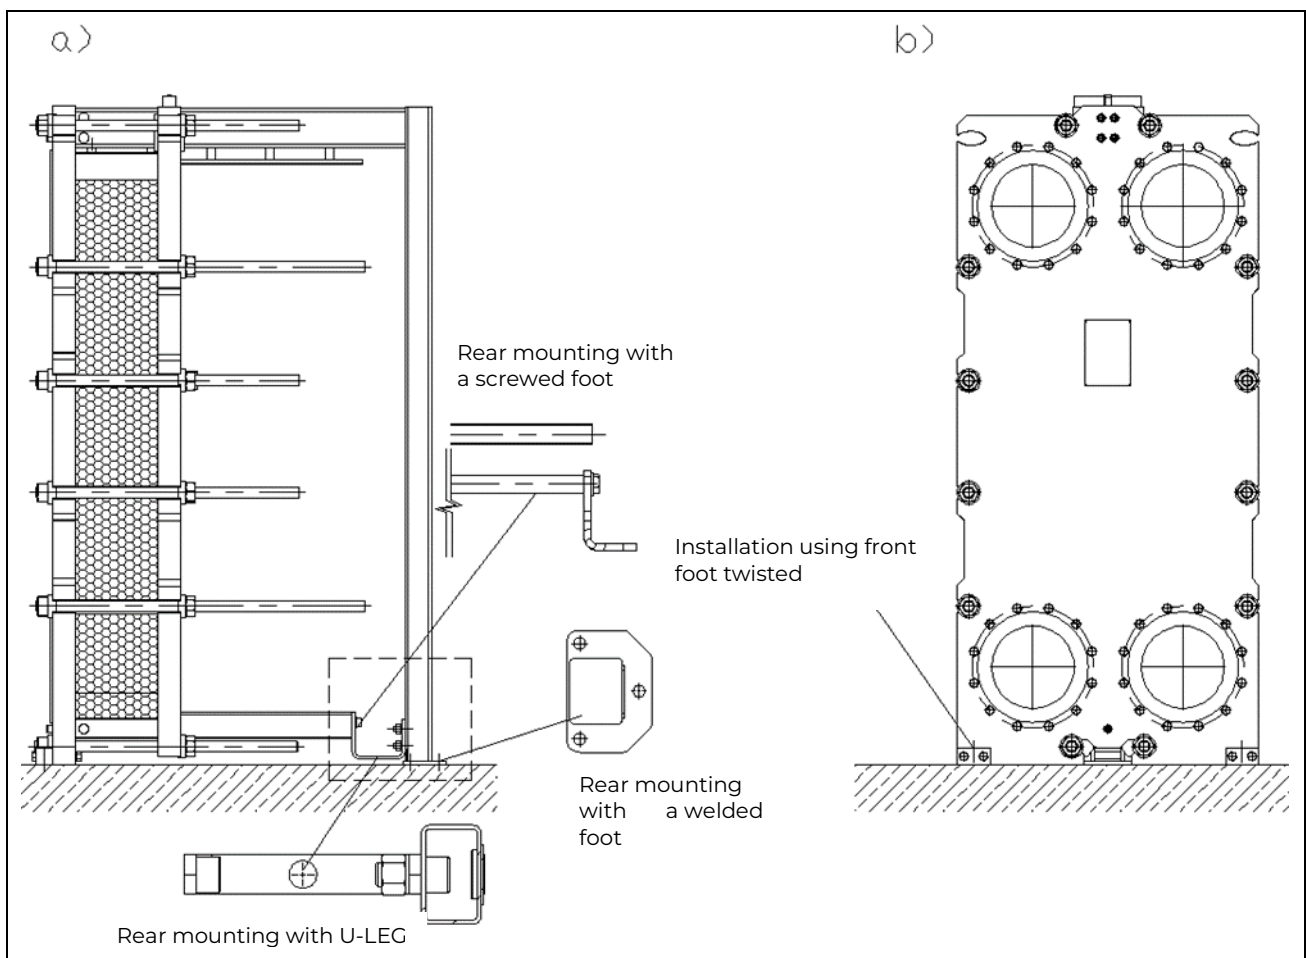

Fig. 11.1 Plate exchanger mounting: a) back, b) front.
- Ensure that the surface where the plate heat exchanger is to stand is flat and even. Level during installation (*Fig. 11.1*).
- Front mounting** screwed foot (*Fig. 11.1 b*)
- Back mounting** U-leg, screwed foot or welded foot (*Fig. 11.1 a*)